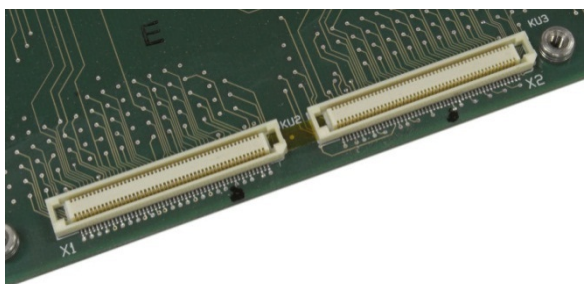
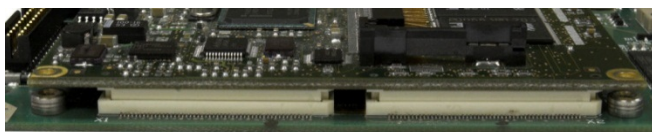

Figure 4-57: Close-Up View of ETX Connectors on Main PCB
Figure 4-58: ETX Board Resting on Connectors
2. Position the ETX board over its connectors. Figure 4-57 shows two of the connectors, and Figure 4-58 shows a side view of the board resting on its connectors.